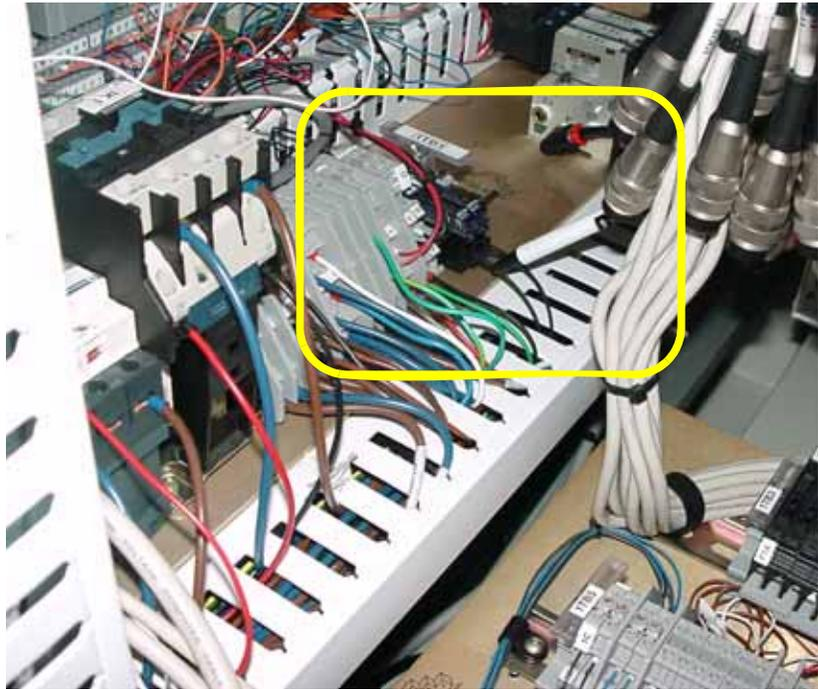

Figure 1-8—Locate fiber optic amplifiers
- 4b) Follow the fiber optic cables back to the fiber optic amplifiers. See *Figure 1-8*.